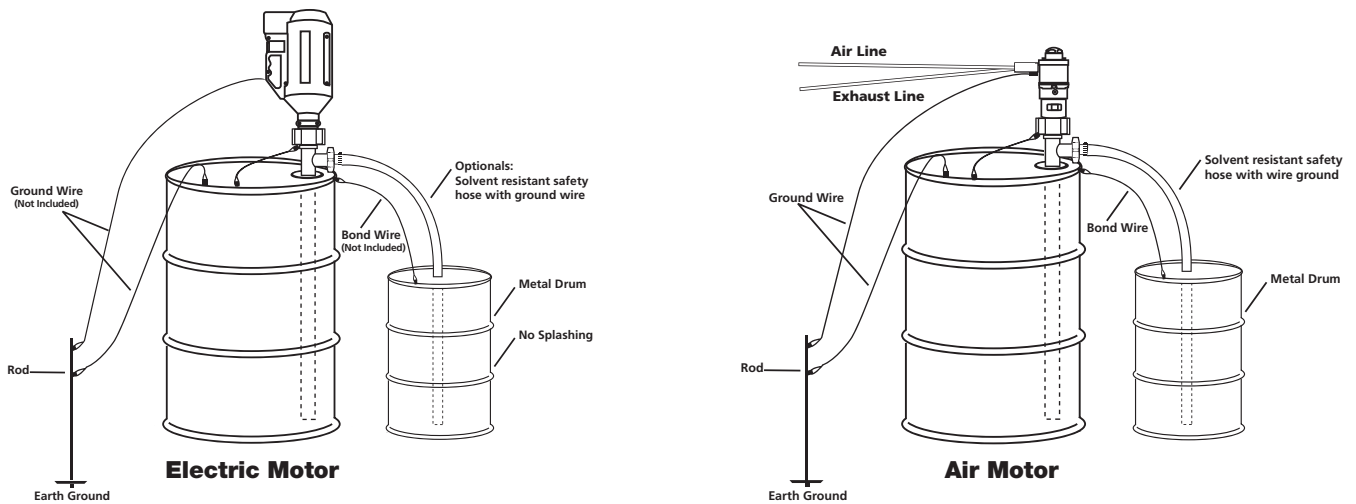

Figure 6 - Static Protection Kit
- Install the Pump and Static Protection Kit as described in Figure 6 on page 12.
**⚠ CAUTION** *Check electrical continuity of all components before pumping. All should be one (1) ohm or less.*